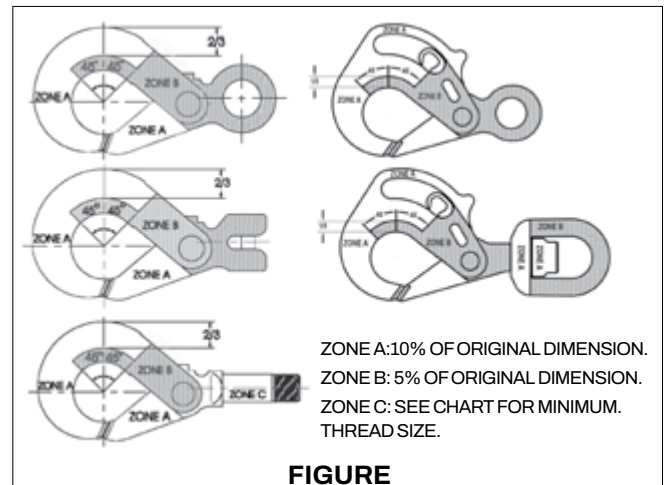

FIGURE 1
- Always make sure hook supports the load. The latch must never support the load (See Figures 1 & 2).
RIGHT**Figure 1****WRONG****Figure 2****RIGHT****Figure 3****WRONG****Figure 4****IMPORTANT – Instructions for Assembling Model SS-4055 Latch on Crosby Hooks****Step 1**
- Never use a hook that is worn beyond the limits shown in Figure 1.
- Remove from service any hook with a crack, nick, or gouge. Hooks with a nick, or gouge shall be repaired by grinding lengthwise, following the contour of the hook, provided that the reduced dimension is within the limits shown in Figure 1. Contact Crosby Engineering to evaluate any crack.